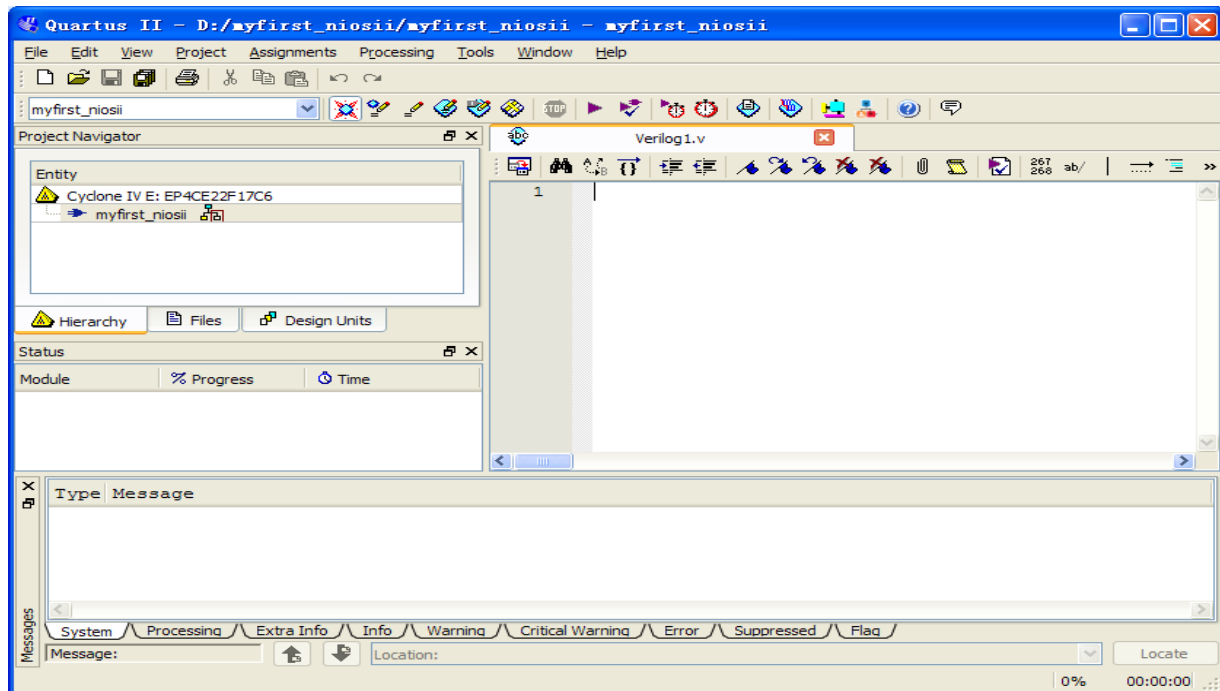

Figure 7-42 A blank verilog file
33. Figure 7-42 show a blank Verilog file.